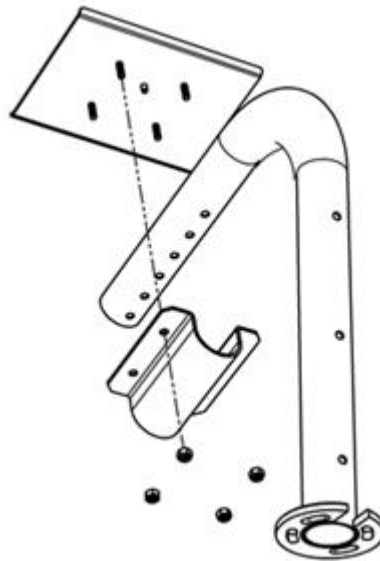

Figure 2.8. Lining up Mounting Screws with Openings in Atomlab Tube Clamp.
4. Place the Display Shelf on the arm assembly with the shelf tube clamp positioned on the other side of the support tube lining up the screw holes with the screw holes in the Atomlab Display shelf. Put the nuts onto the posts and tighten them (see Figure 2.8).